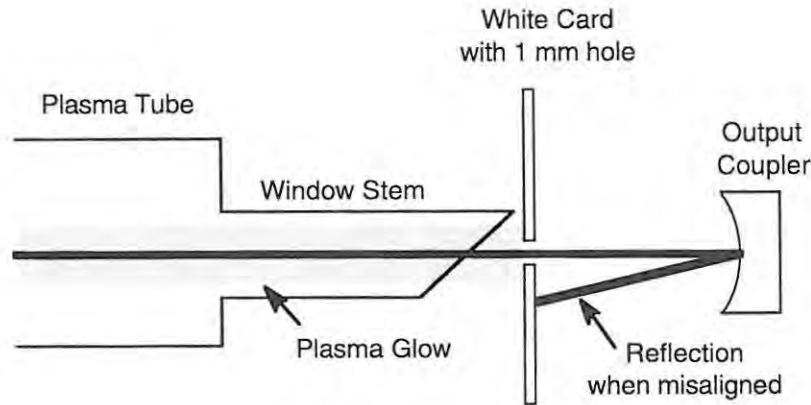

Figure 7-9. Setup For Observing Retroreflection At Anode (Front) Window
8. Place or hold the card near the tip of the front window stem. Position the card so the hole is centered on the violet plasma glow from the tube when viewed from the front of the head. Refer to Figures 7-9 and 7-10.